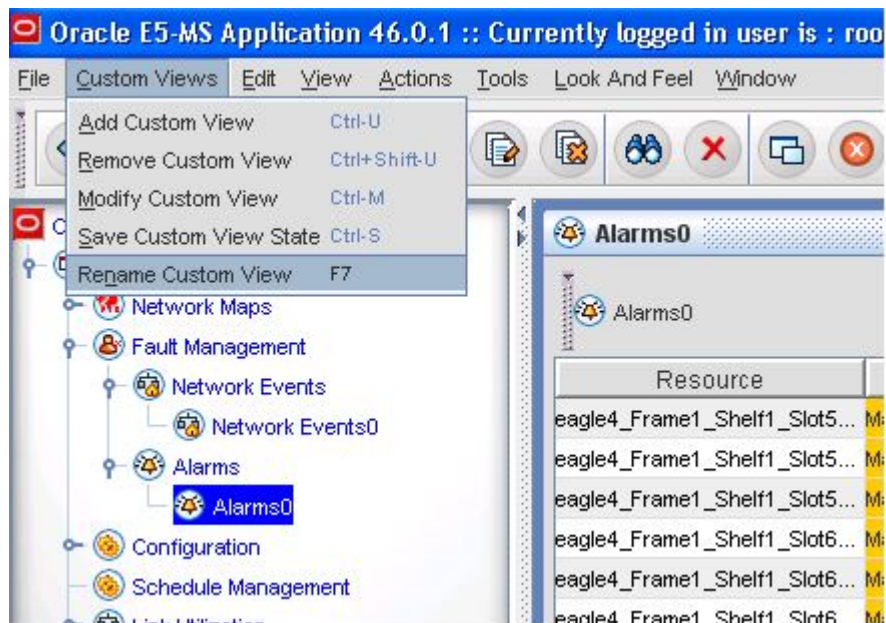

Figure 115: Rename a Custom View By Using Menu Bar
- From the **Custom Views** menu in the top menu bar, choose **Rename Custom View** as shown in Figure 115: Rename a Custom View By Using Menu Bar.